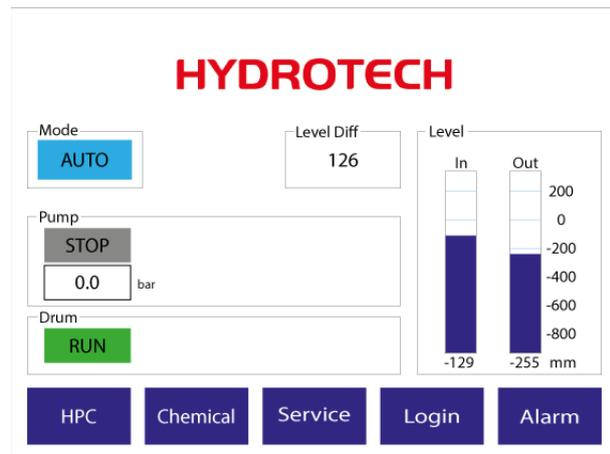

Figure 7.9 Main menu in AUTO operating mode.
3. Select “HPC” on the operator panel, see Figure 7.9.